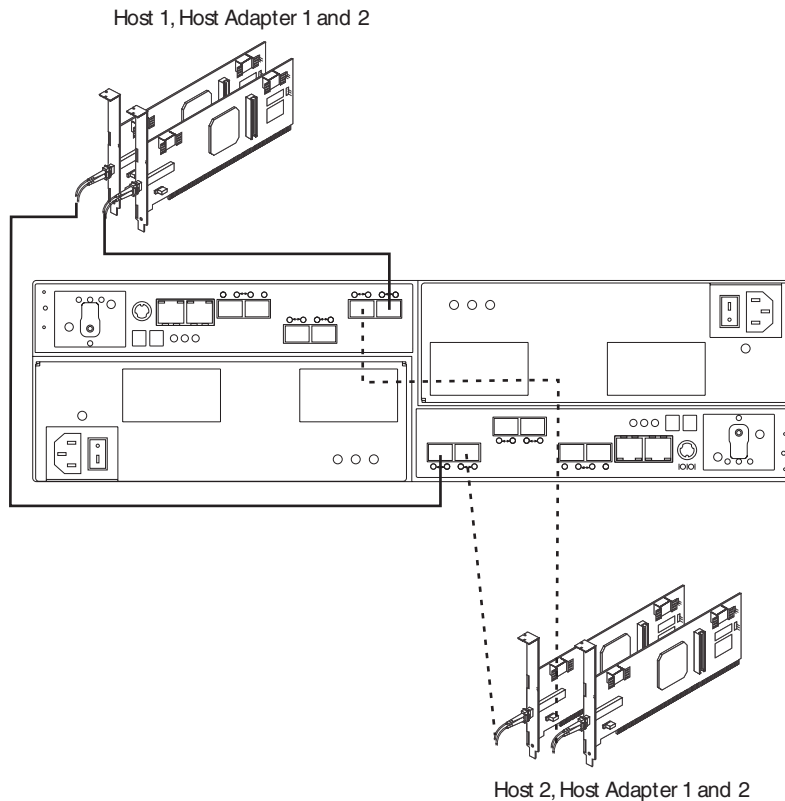

Figure 54. Cabling diagram for two redundant host connections
3. Repeat steps 1 on page 80 and 2 on page 80 for each additional redundant host connection. You can create two redundant host connections for the DS3950 storage subsystem, as shown in Figure 54 on page 82, or a maximum of four redundant host connections (not shown). With four redundant host connections, you can have a connection to a DS3950 Fibre Channel host bus adapter or to Fibre Channel switch ports.